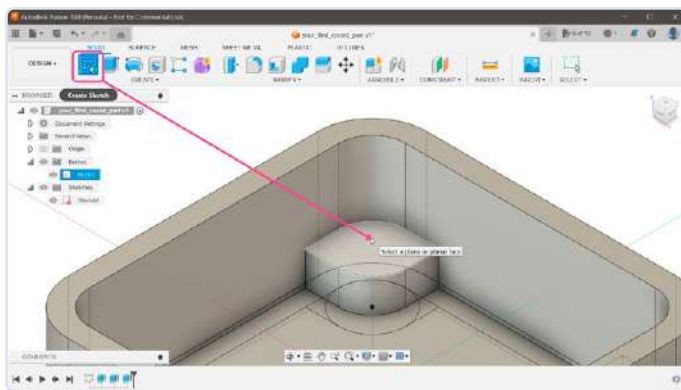

Figure 13: Setting up the hole in the support.
13) It would be nice if those supports included holes for screws. We already have the position of these holes (the center points of the circles), but they are in the different Z positions. The points are on the bottom of the enclosure, but we need those to be on top of the supports. To move those points, we will create a new sketch by selecting *Create Sketch* button, and, for the position of this sketch, click the top plane of one of the supports (Figure 13).